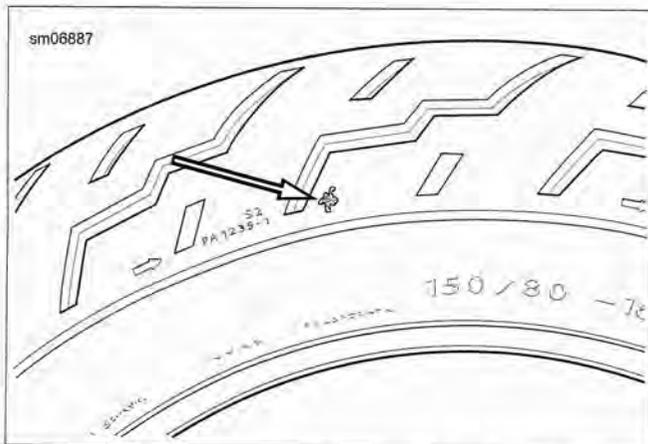

Figure 1-33. Tread Wear Indicator: Michelin Tires
- **Michelin Tires:** See Figure 1-33.